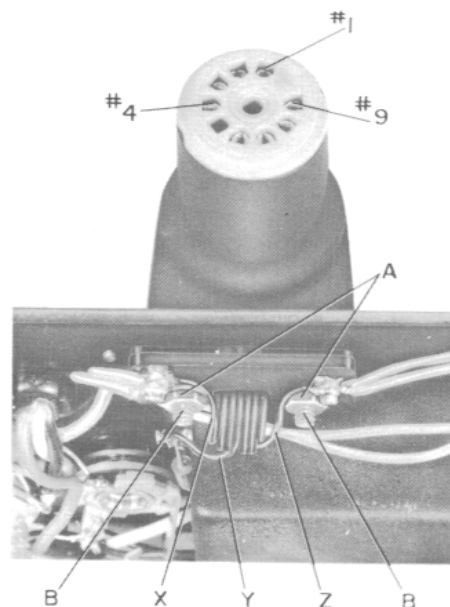

Figure 4-4. Internal view of Swivel Support Assembly lead connections, terminals and mounting.
See Figure 4-4. To replace the Swivel Support Assembly:
- Position the new swivel-support assembly so that the strobotron tube socket and leads (X, Y, Z) can be mounted as shown in Figure 4-4. Make sure the detent button faces inwards (toward the panel).
- Insert leads (X, Y, Z) through the slot between screws (B), and hold the swivel-support assembly in position between the two pivot blocks. Slide the pivot blocks together and tighten nuts (A). The pivot action of the swivel-support assembly may need adjustment; if so, loosen one nut (A), adjust its pivot block, and tighten the nut again.
- Solder leads (X, Y, Z) to terminals (see Figure 4-4).